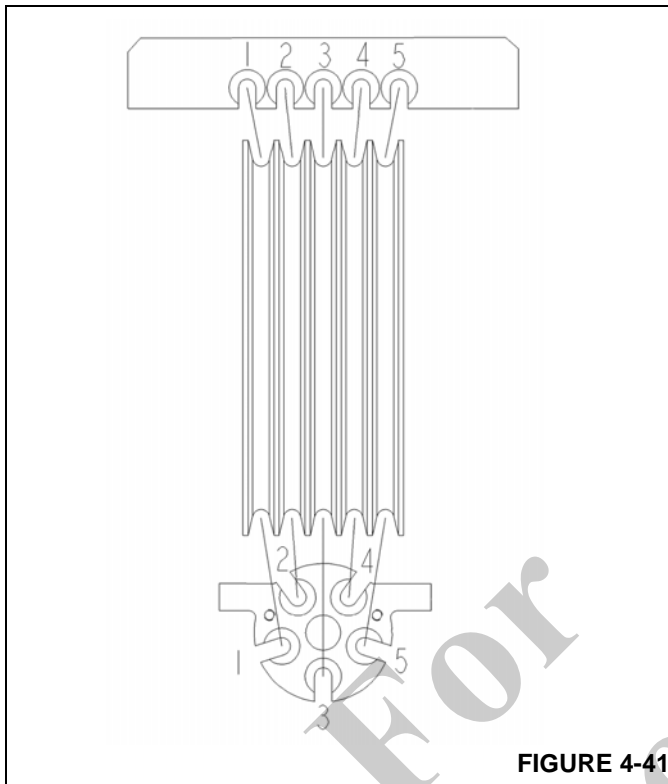

FIGURE 4-41
11. Mark **BOTH ENDS** of the five extend cables (Figure 4-41).